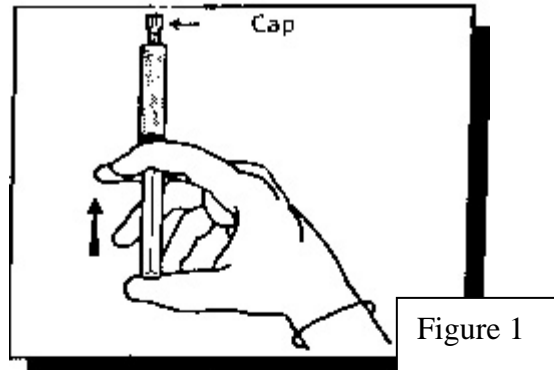

Figure 1
1. Hold the prefilled saline syringe upward (figure 1).
2. **Do not remove the cap.** Press on the plunger. (figure 1). **DO NOT** pull back on the plunger.